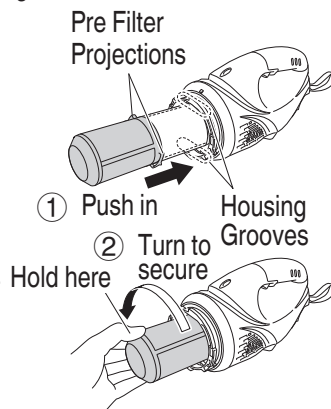

Fig. 10
- (5) Install the pre-filter (**Fig. 10**)